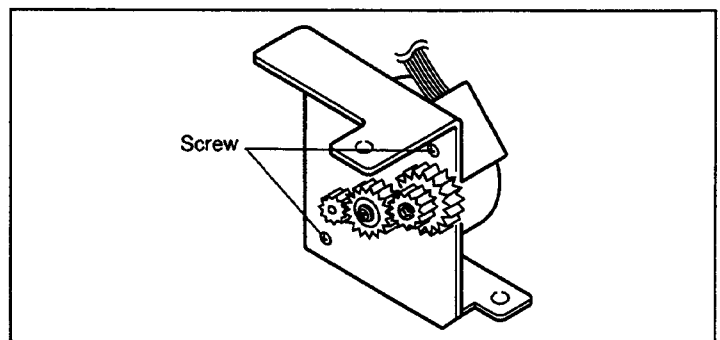

Fig. 5-25
- 5) Remove 2 screws shown in Fig. 5-25.